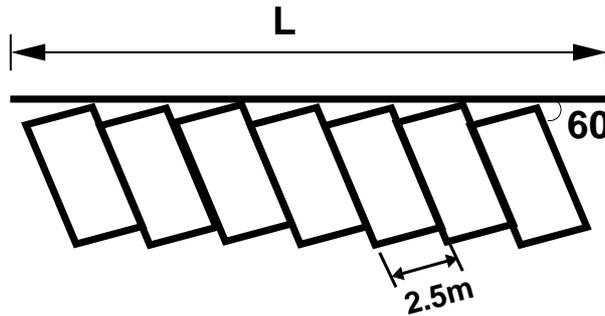

Figure 38:5: Illustration of 60° parking
**Right angle parking:** In right angle parking or 90° parking, the vehicles are parked perpendicular to the direction of the road. Although it consumes maximum width kerb length required is very little. In this type of parking, the vehicles need complex maneuvering and this may cause severe accidents. This arrangement causes obstruction to the road traffic particularly if the road width is less. However, it can accommodate maximum number of vehicles for a given kerb length. An example is shown in figure 38:6. Length available for parking  $N$  number of vehicles is  $L = 2.5N$ .